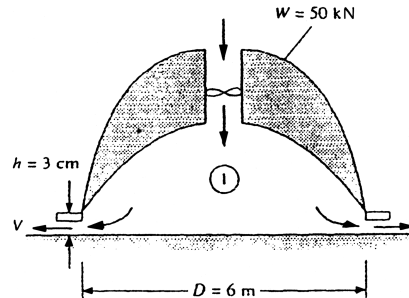

Fig. P3.160
3.160 The air-cushion vehicle in Fig. P3.160 brings in sea-level standard air through a fan and discharges it at high velocity through an annular skirt of 3-cm clearance. If the vehicle weighs 50 kN, estimate (a) the required airflow rate and (b) the fan power in kW.